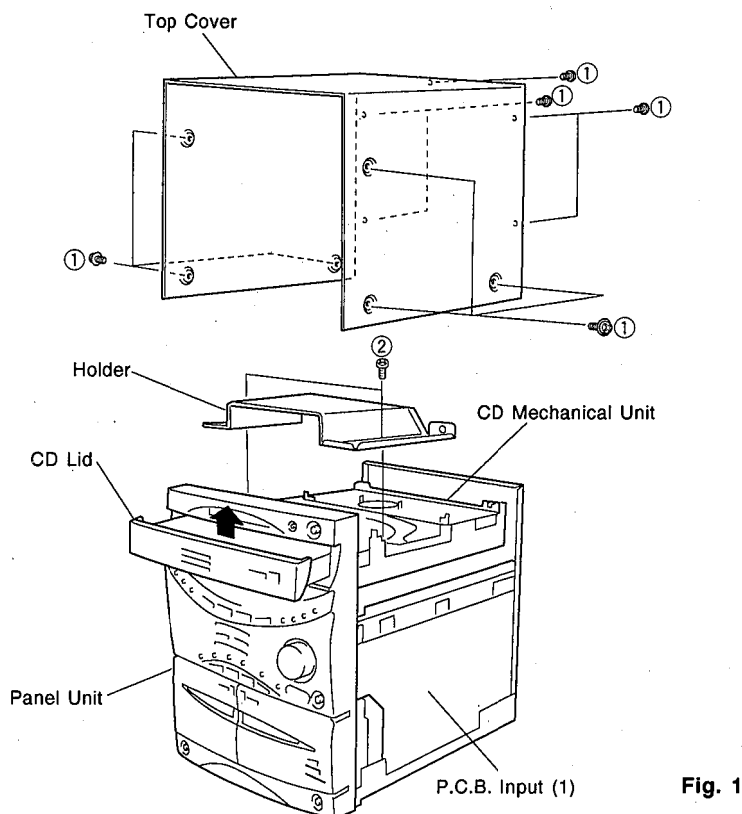

Fig. 1
- ⑦ P.C.B. MAIN (4)
- ⑧ P.C.B. TUNER
- ⑨ CASSETTE DECK MECHANISM (PB)
- ⑩ P.C.B. MAIN (1)
- ⑪ CASSETTE DECK MECHANISM (R/P)
Remove 11 screws (①) in Fig. 1.
- Pull the Tray forward approx. 5cm (2") and remove the CD Lid as shown in Fig. 1.
- Remove 2 screws (②) and then remove the Holder in Fig. 1.